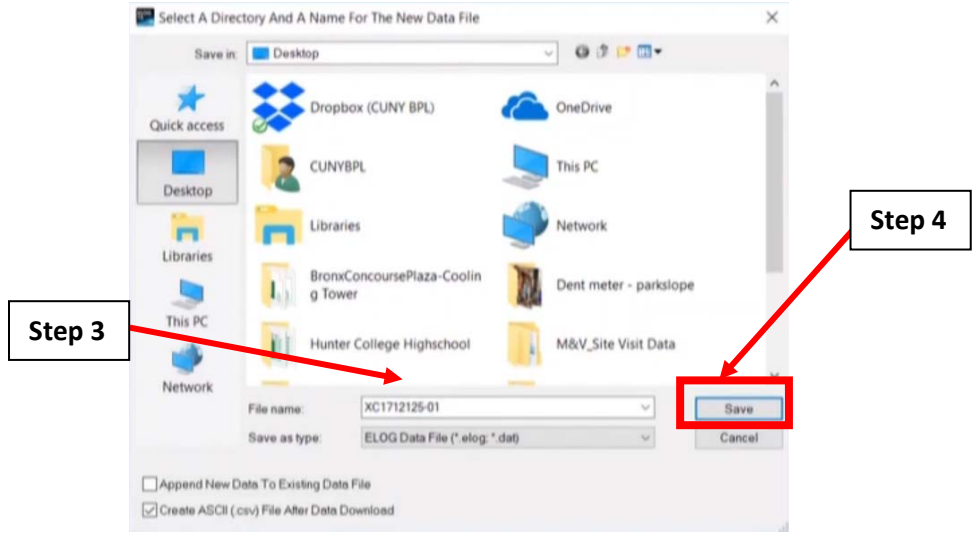

Figure A.3.16: The "Save As" window.
3. A new window will open that will prompt you to save the .ELOG file on your system as shown on Figure A.3.16. Name the file with the same format that was used in step 5 of the Quick Setups Section.
4. Find an appropriate file destination then click “Save” (Figure A.3.16).
- A “Save” pop-up window will be shown on your screen. Name the .csv file (it should be the same exact name as the .ELOG file), select a file destination, and click “Save.” (in a similar fashion to Figure A.3.16).